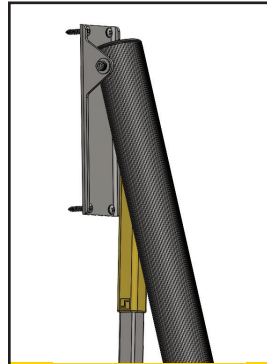

FIGURE 2
6. Remove locking pin; deploy rail to expose upper mounting holes. Install remaining 2 (1") upper screws. (See **Figure 2**)